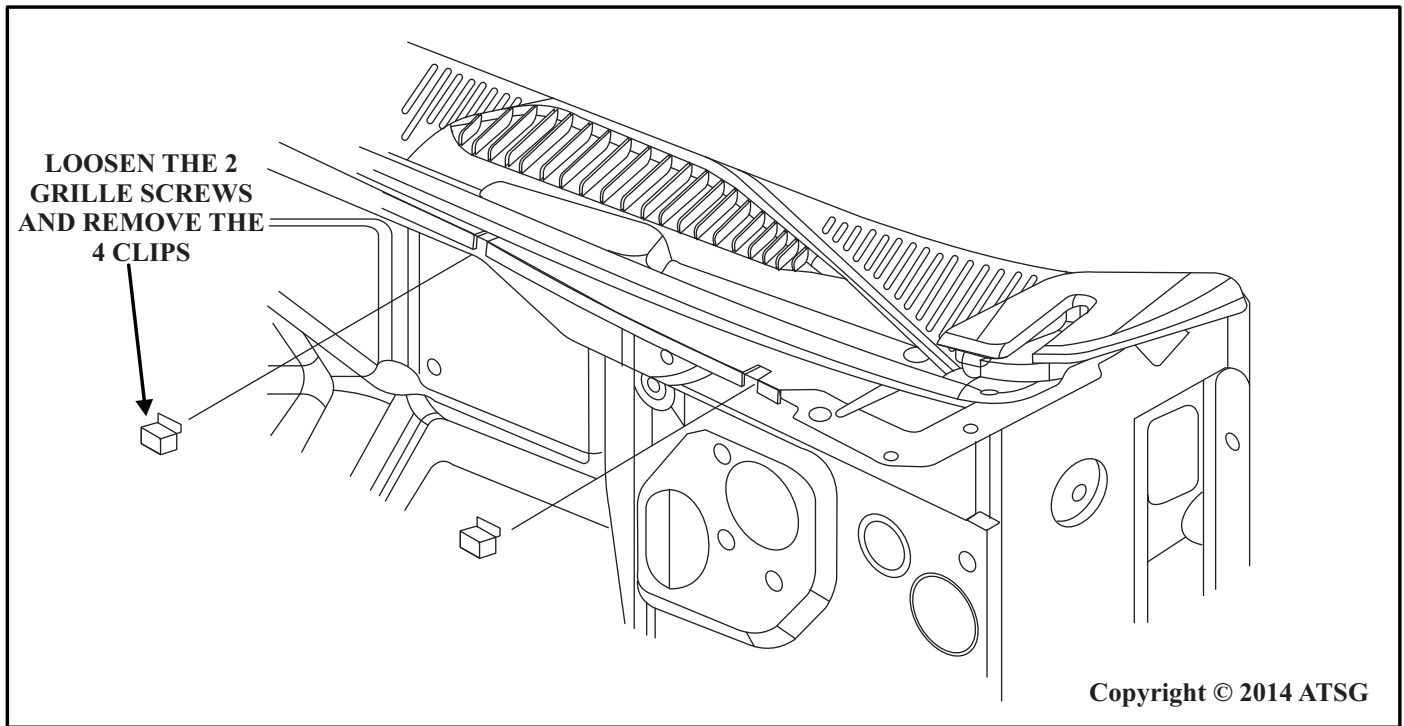

Figure 3
Next, loosen the two (2) sheet metal screws on both ends of the air inlet grille panel. Then remove the four (4) attaching clips running along the edges of the center air inlet grille panel, (Refer to Figure 3).